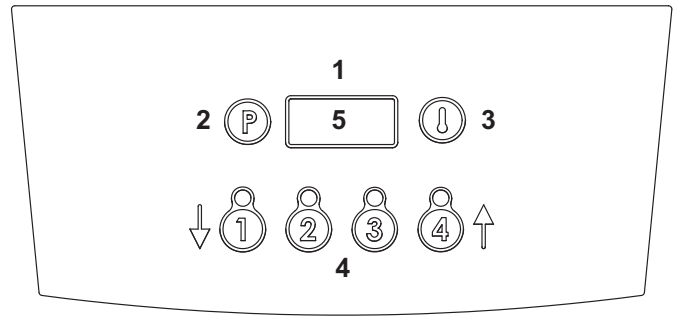

Figure 3 – G402F Control Panel
2.4.2 G402F Fryer Control Panel (See Figure 3)